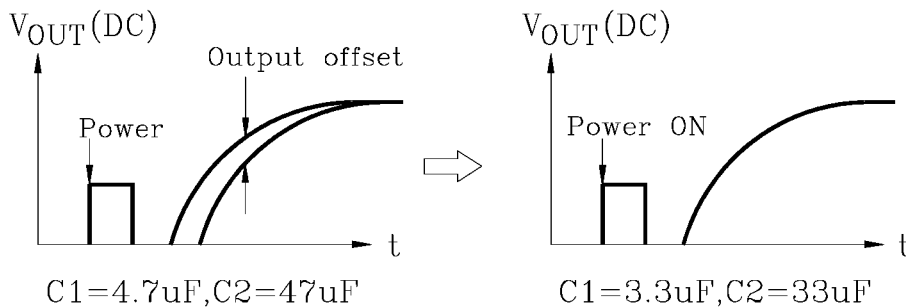

Fig.4
Having Pre-Amp (Amp 1) mounted on the primary stage, this IC contains the circuit for making the Amp 1 input voltage and the NF terminal voltage equipotential. Therefore, the offset voltage produced at the input stage is suppressed to prevent the pop noise at V_{CC}→ON. The capacity values of the input and NF condenser (C1 and C2) shall be set according to the gain to be used(Fig 4).
Through setting ① pin (mute terminal) at about 1V or less, muting becomes possible. The interval circuit of IC is shown in fig.4.